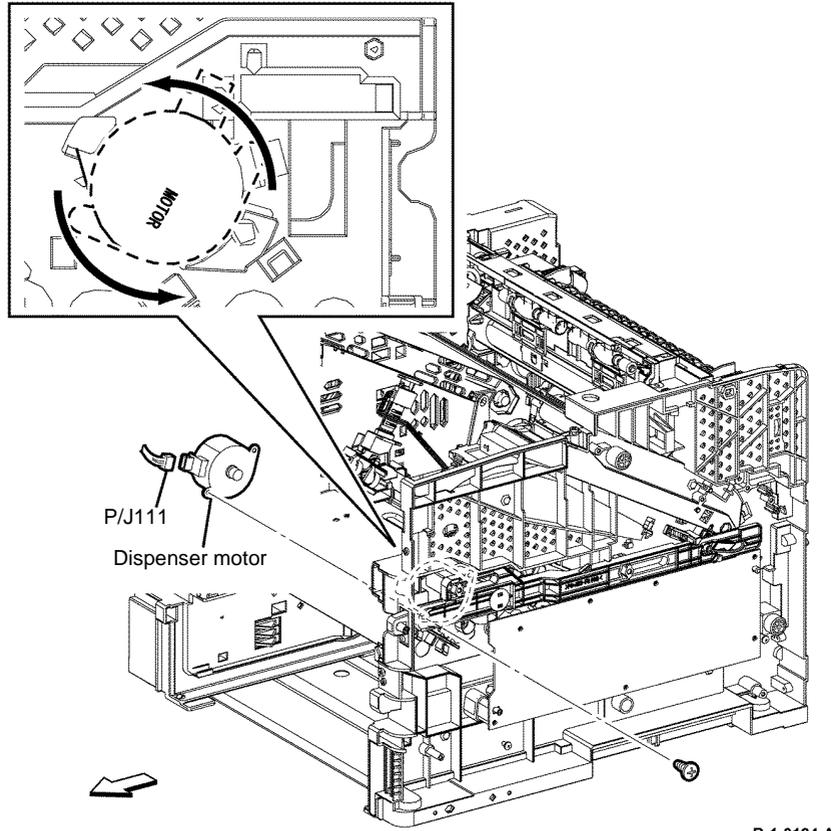

Figure 4 Dispenser motor removal
15. Remove one screw (silver, tapping, 8mm) that fixes the dispenser motor, rotate the dispenser motor anti-clockwise and remove, Figure 4.